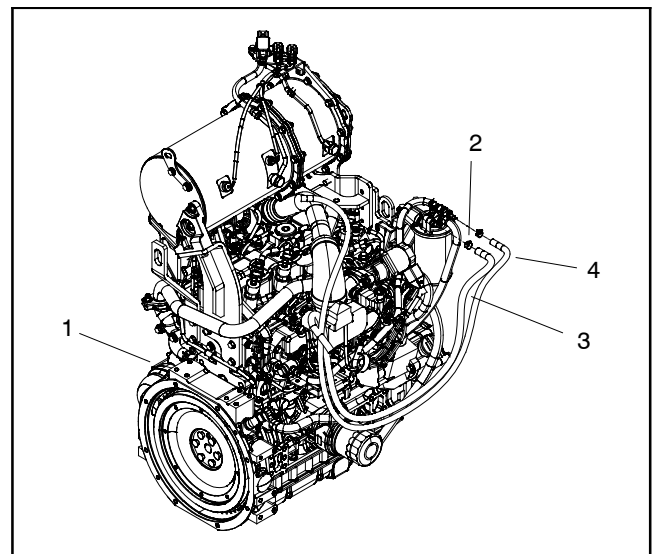

Figure 82
2. Disconnect fuel pump discharge hose from the fuel filter attached to the engine (Fig. 82).